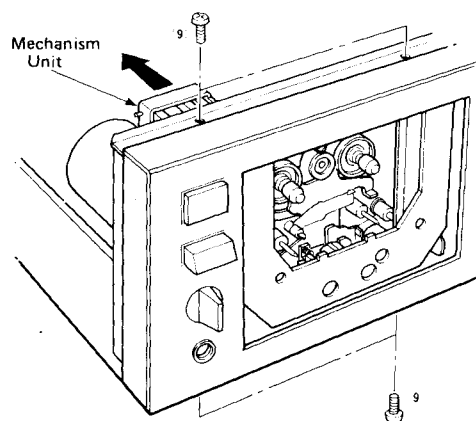

Fig. 5
- d. Remove 4 screws ⑨ in Fig. 5 and pull out the mechanism unit gradually to the rear.